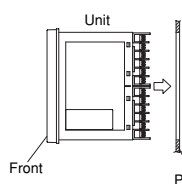

Fig. 2
- (2) As shown in figure 2, fasten with a mounting frame or mounting screws to ensure that there is no gap between the front of the controller and the panel. At this time, check that there are no gaps or warping of the packing as seen in figure 3.